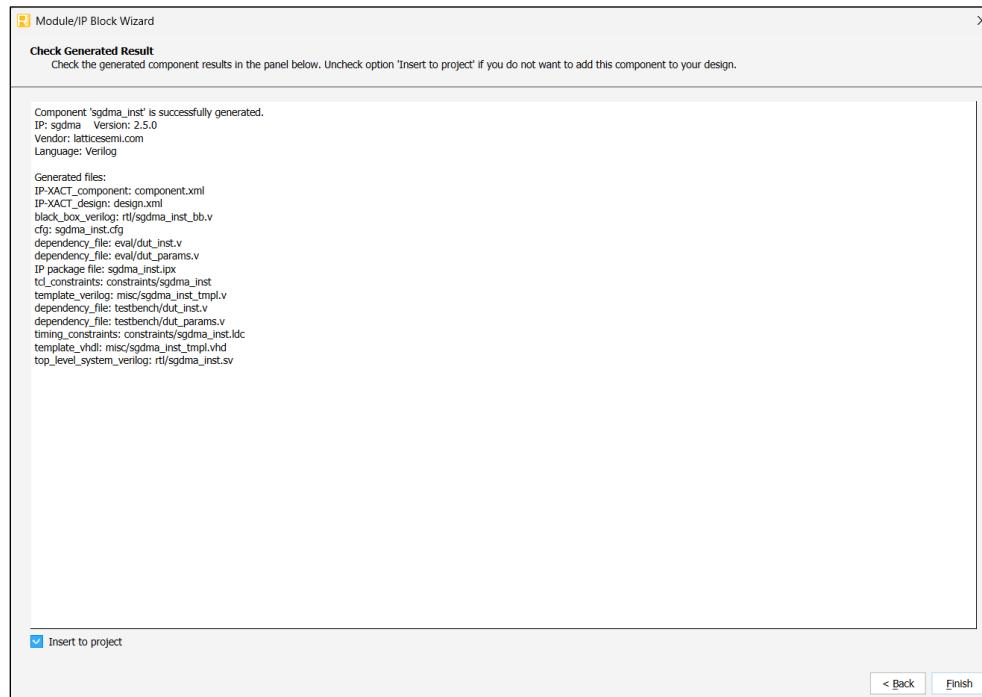

Figure 7.3. Check Generated Result
4. Click **Generate**. The **Check Generating Result** dialog box opens, showing design block messages and results as shown in Figure 7.3.